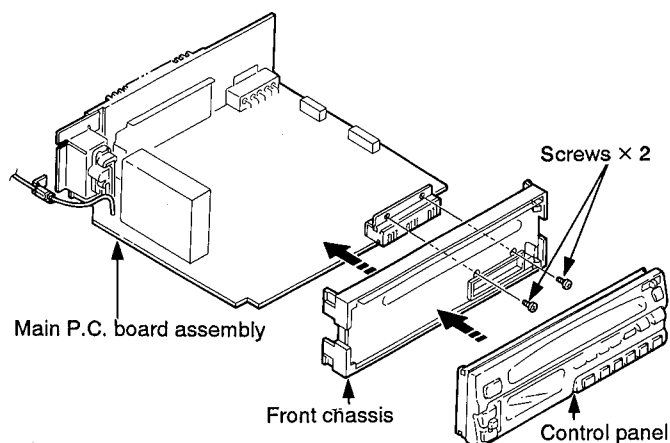

Fig. 8-2
5. Fit the front chassis to the main P. C. board assembly with two screws. (Fig. 8-2)
6. Fit the control panel to the front chassis assembled with the main P. C. board. (Fig. 8-2)